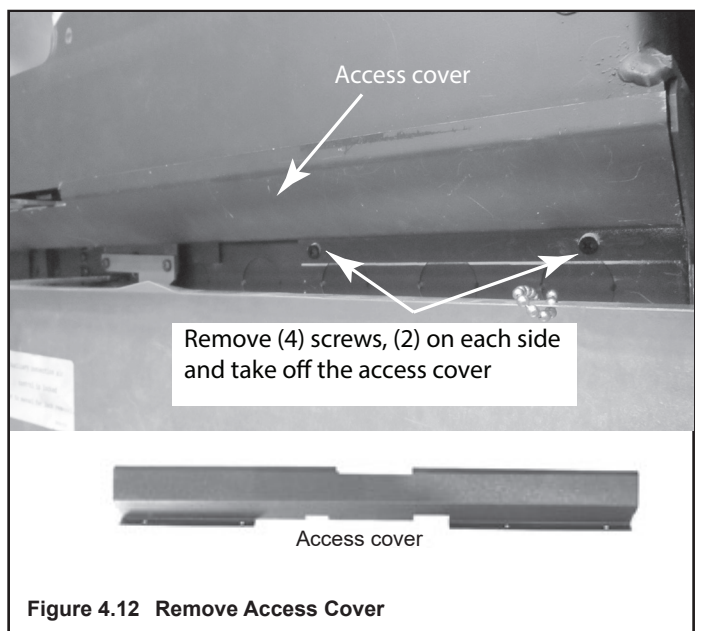

Figure 4.12 Remove Access Cover
- Remove the screws and take off access cover shown in Figure 4.12.